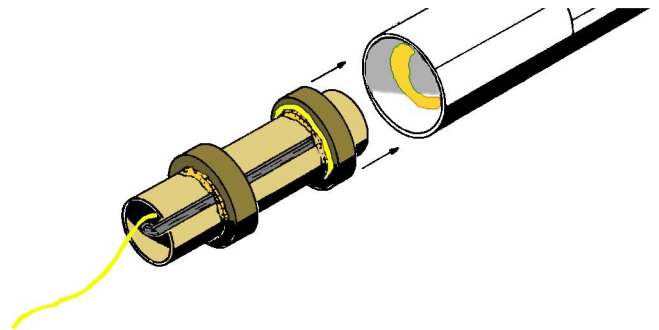

Figure 6
- **Step 12** Push the Kevlar thread down through the center of the engine mount and pull the excess out of the way. Apply a generous bead of full-strength glue up inside the bottom of the body tube, about 1" up from the edge. As shown in Figure 6, insert the forward end of the mount into the body tube and through the glue, until the bottom of the motor tube is even with the bottom of the body tube. Do not stop at any time during this action, or the glue will "freeze" the mount in the wrong place. Set this aside to dry.